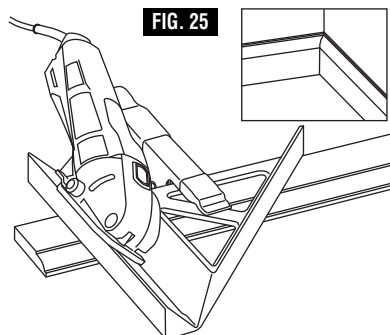

FIG. 25
2. 45° Bevel Cuts- While using the flush cutting wheel only, place the saw in the cutting rail to complete the cut, (Fig. 25).